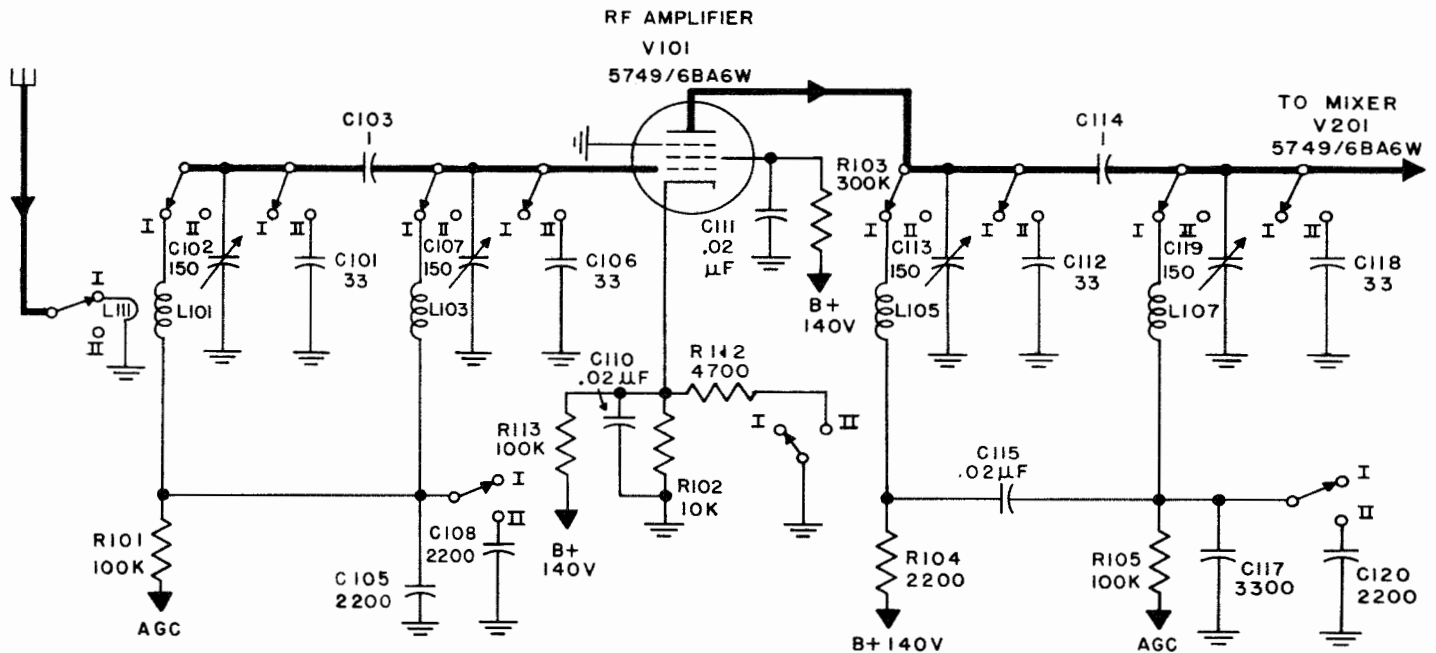

Figure 2-6. Simplified Schematic—RF Amplifier
(1) ANTENNA INPUT.—The antenna input circuit of the AN/FRR-30 is designed for use with 72 ohm coaxial transmission line, such as JAN type RG-11/U or equivalent. The external transmission line connects to the 72 OHM ANTENNA receptacle (J501) located on the rear compartment of the receiver cabinet. The type UG-21B/U connector plug (P501), for the J501 receptacle, is supplied with the receiver for attachment to the antenna transmission line at the time of installation. A short length of coaxial cable, inside the rear filter compartment, connects the antenna line to the receptacle J504, which is mounted to face the inside of the receiver case. As the receiver chassis slides into the case, the J504 receptacle engages its mating connector (J303) which is mounted at the rear of the Audio/Power Supply chassis assembly. A short length of RG-58A/U coaxial cable, with one end permanently connected to the terminals of J302, terminates at the other end in a bayonet locking plug, AN Type UG-88/U (P301). This plug mates with an AN Type UG-290/U receptacle (J102) on the RF chassis assembly. This arrangement permits removal and replacement of any chassis without unsoldering the antenna connections. J102 then connects to the primaries of the Z101 RF coils. The receiver range of 200-560 Kc is divided into two equal bands: Band I: 200-380 Kc, and Band II: 380-560 Kc. For simplicity, figure 2-6 shows only the coils for Band I with FREQUENCY BAND switch (S101) as being in the Band I position and the discussion will basically concern Band I operation.
(2) RF AMPLIFIER.—As indicated in figure 2-6, the RF amplifier consists of one pentode type 5749/-6BA6W tube (V101) and four shielded RF transformers, each of which has two fixed powdered-iron core coils, one for each band. Each transformer assembly also contains an air dielectric variable capacitor which tunes the coil selected. The four tuned circuits between the antenna input and the first mixer assure adequate selectivity for the rejection of undesired signals near the receiver frequency. The individual shielding prevents interaction between circuits. The first RF transformer (Z101) has four windings: two secondaries, one for each band, and two primaries. The primaries are connected in series and are not switched. The receiver input impedance is a nominal 72 ohms.